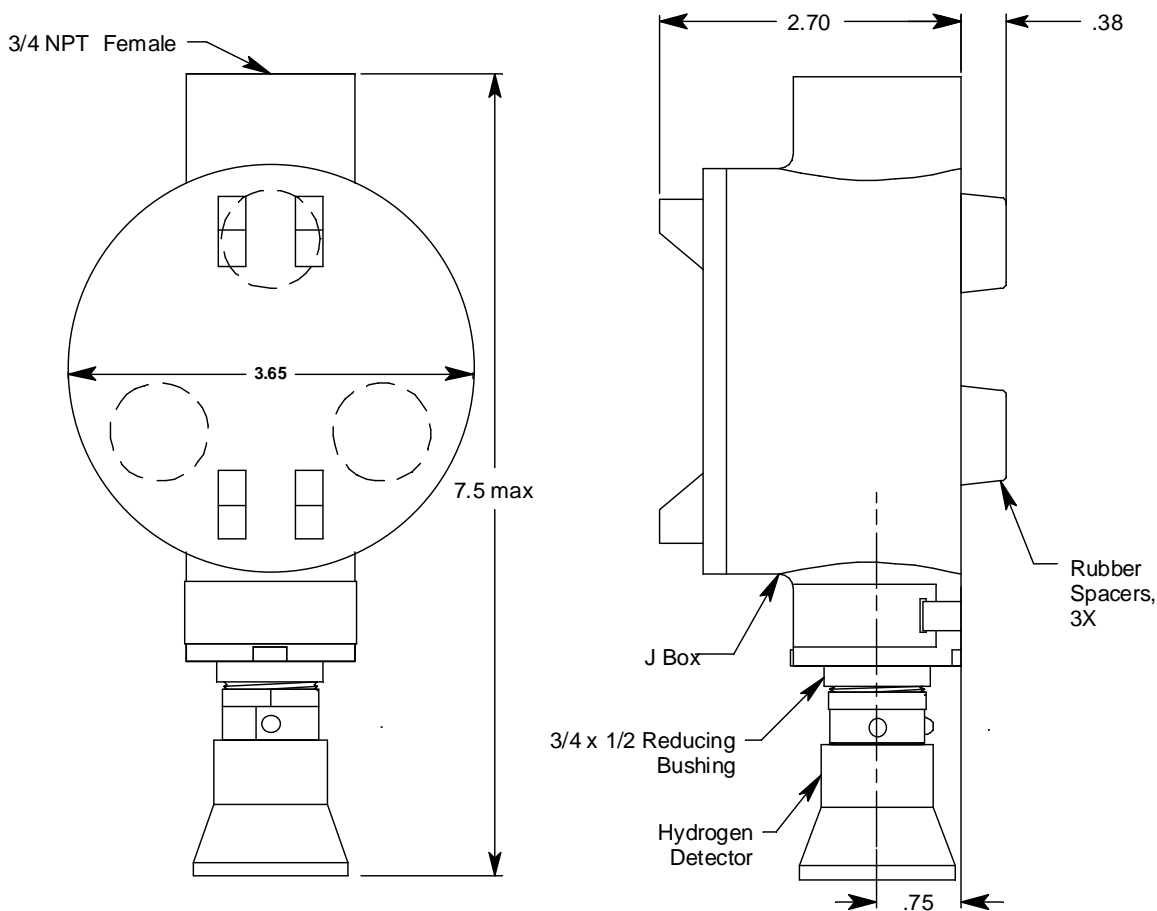

Figure 2: Mounting the ppm Hydrogen Transmitter
2. At the monitoring site you select, hang or mount the junction box with the detector facing down (see Figure 2).